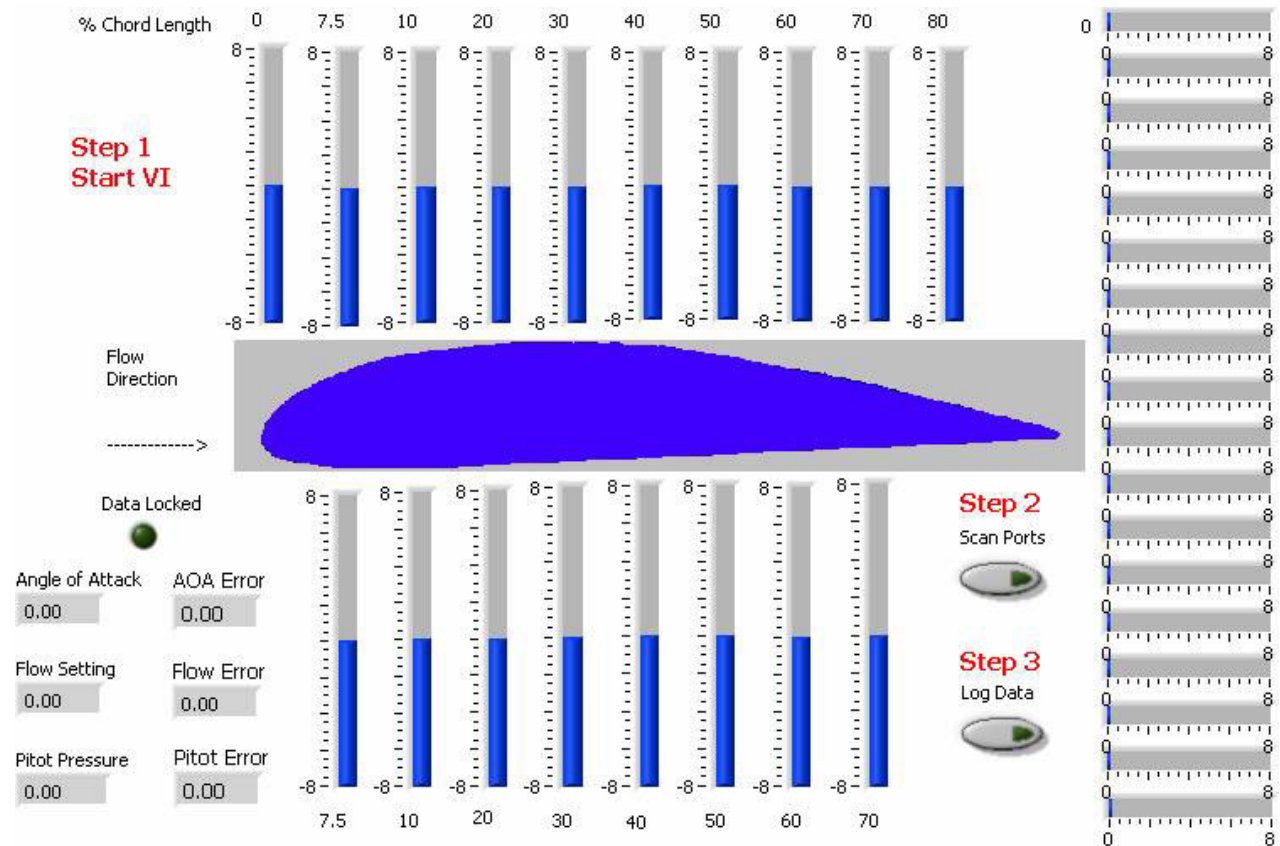

Figure 2: Pressure VI front panel display.
2. The control Console has three rocker switches on the front panel (see figure 2, below). To start the flow in the tunnel, press the switch labeled "Power Setting" in the appropriate direction. When the window displays the desired "Percent Full Power" on the LED display, release the pressure on the switch. Press the silver pushbutton labeled "Power Update" until it clicks. This applies the displayed power setting to the inverter to set the flow to the desired Percent of Full Power setting. The power setting is an arbitrary number which is a repeatable power setting used for reference. The numbers are used only for adjusting the power for tunnel calibration. When taking data, use the value displayed on the VI front panel "Flow Setting."